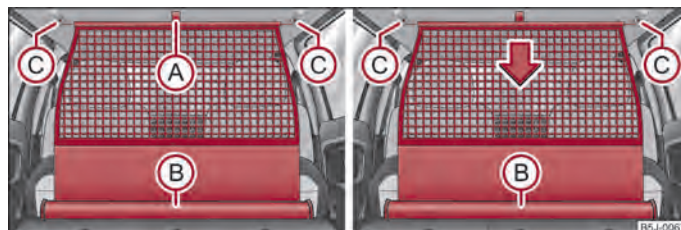

Fig. 54 Pull out the rear bulkhead/roll up
- Pull the luggage net partition at the bracket (A) out of the housing (B) → fig. 54.
- First of all insert the cross rod into the mount (C) on one side.
- Pull the cross rod back slightly, first on the one side then on the other side and take the cross rod out of the mount (C) → fig. 54.
- **Hold** the cross rod in such a way that the luggage net partition can roll up slowly and without damage into the housing (B).